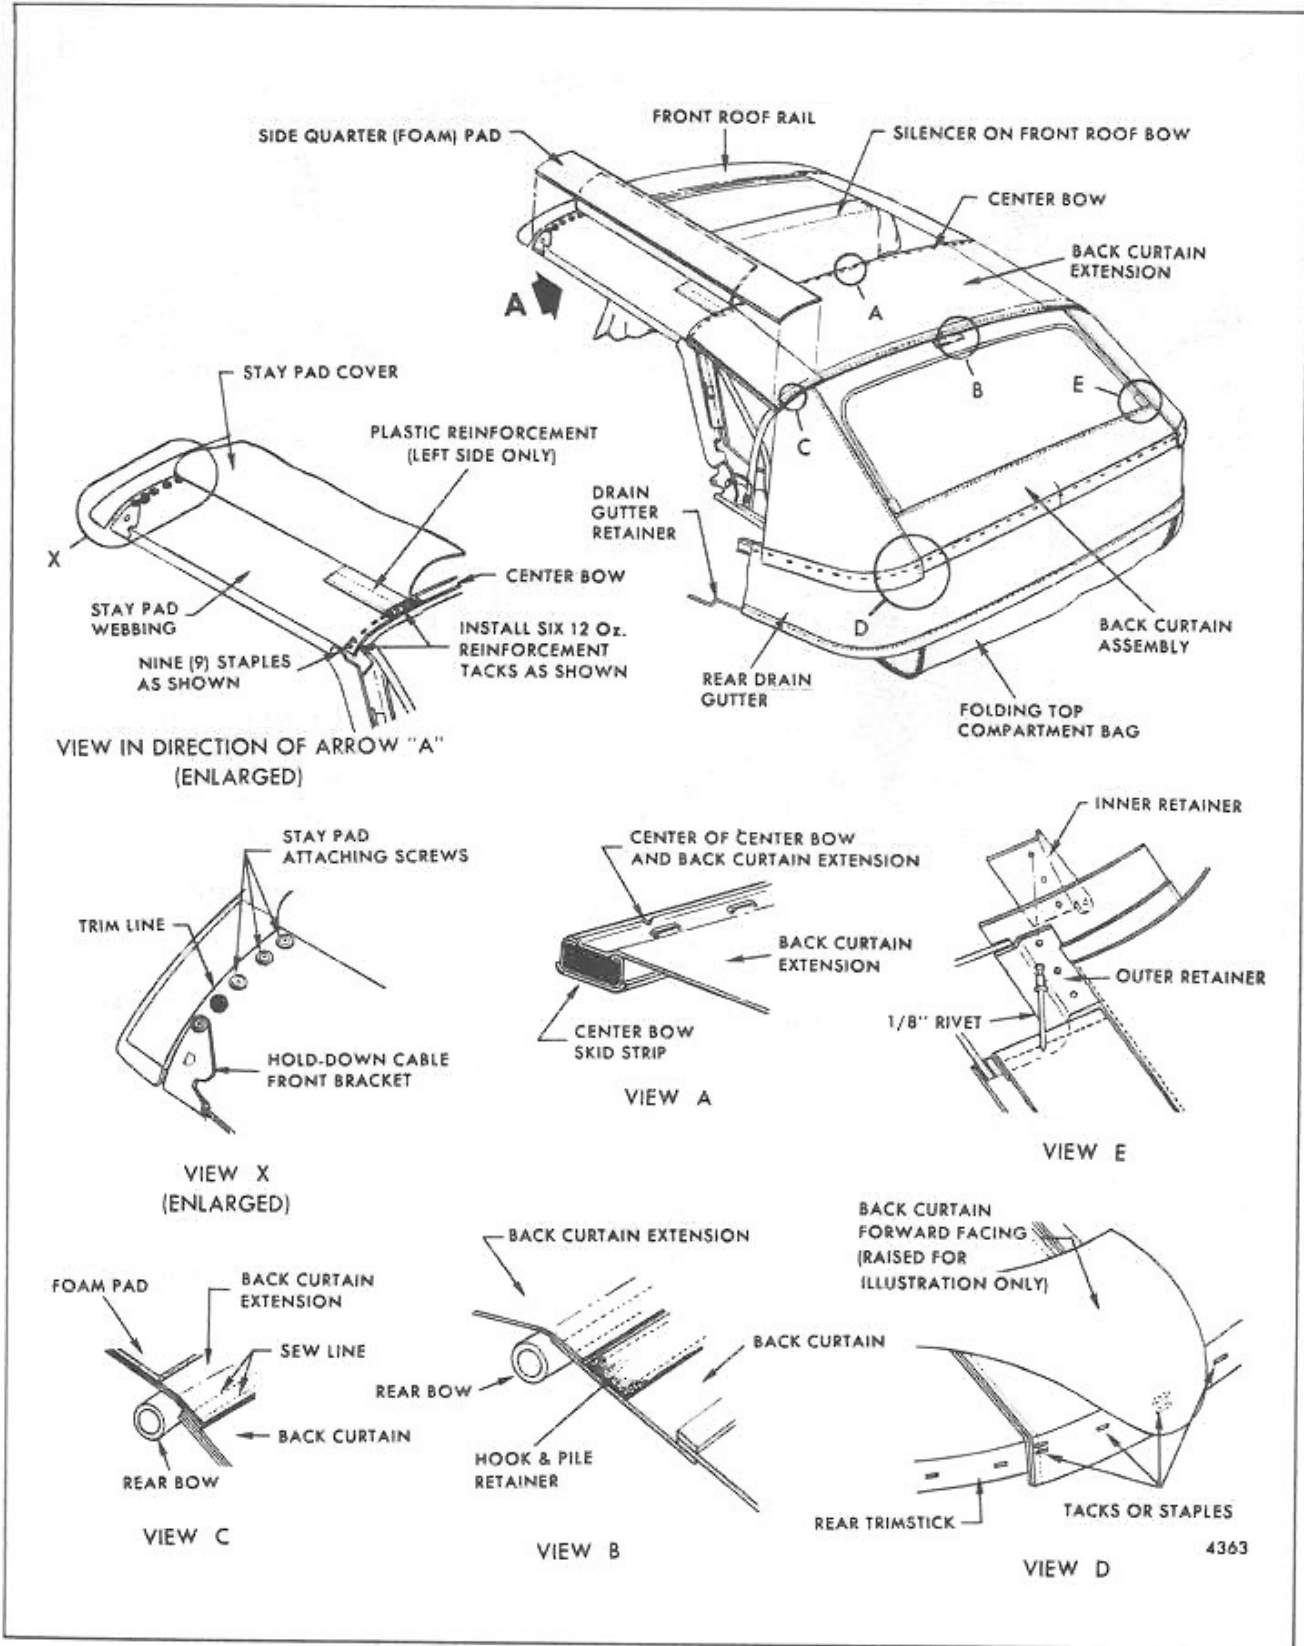

Fig. 5-Back Curtain Assembly Attachment and Reference Marking
- A. Detach side quarter foam pad from back curtain extension up to center bow (Fig. 5). If pad(s) are damaged during removal, they should be replaced with equivalent soft, foam rubber material. Use sharp blade, like razor, with care and cut cemented bond while gently lifting foam pad.
- C. Detach back curtain from rear trimstick. Note how folded material is secured below back window sides (Fig. 5).
- A. Position center of new back curtain extension on center of center bow. Front edge of extension should be flush with front rib of center bow. Staple or tack extension to center bow. Start at center, keep trim material flat, and space tacks or staples about two (2) inches apart (Fig. 5).
- D. Fold back each side of curtain, shown in View "D", Figure 5, and install three staples or tacks at this location.
- E. Space staples or tacks about two inches apart (about 40 tacks or staples). Avoid excessive stretching of material (Fig. 5).
4. Cement original or replacement side quarter (foam) pad (Fig. 5) between center bow and rear bow on each side. If pad(s) from center to rear bow were damaged upon removal, replace them with equivalent foam rubber material.